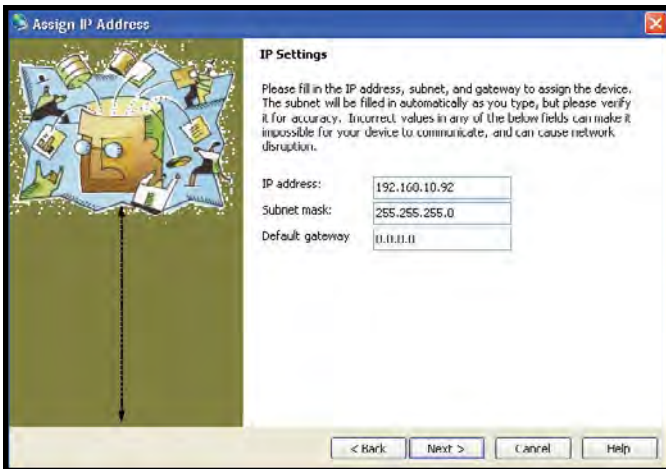

Figure 68. Assign IP Address, IP Settings window
- VIII. Enter the IP address and Subnet mask. The Default gateway is optional. Click “Next >” when complete (see Figure 68).